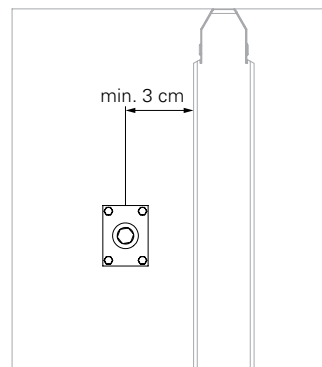

Fig. A2.19
1. Check the required space for the Anchor Positioning Plate M24 (**17**). A lateral clearance of 3 cm or 4 cm is required. (Fig. A2.19 + A2.20)